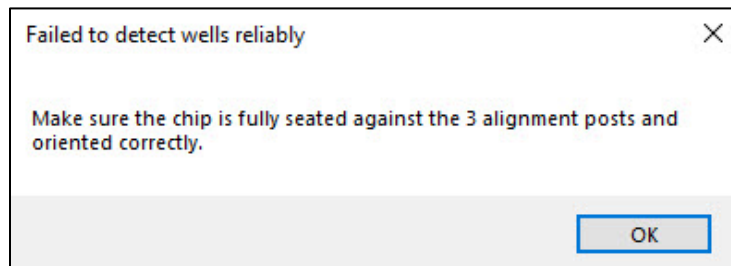

Figure 76. Pop-up message if a problem is detected during the chip scan.
- Occasionally, if the chip is not inserted correctly, the software will prompt the user to make sure that the chip is fully seated against the three alignment posts and oriented correctly (Figure 76).